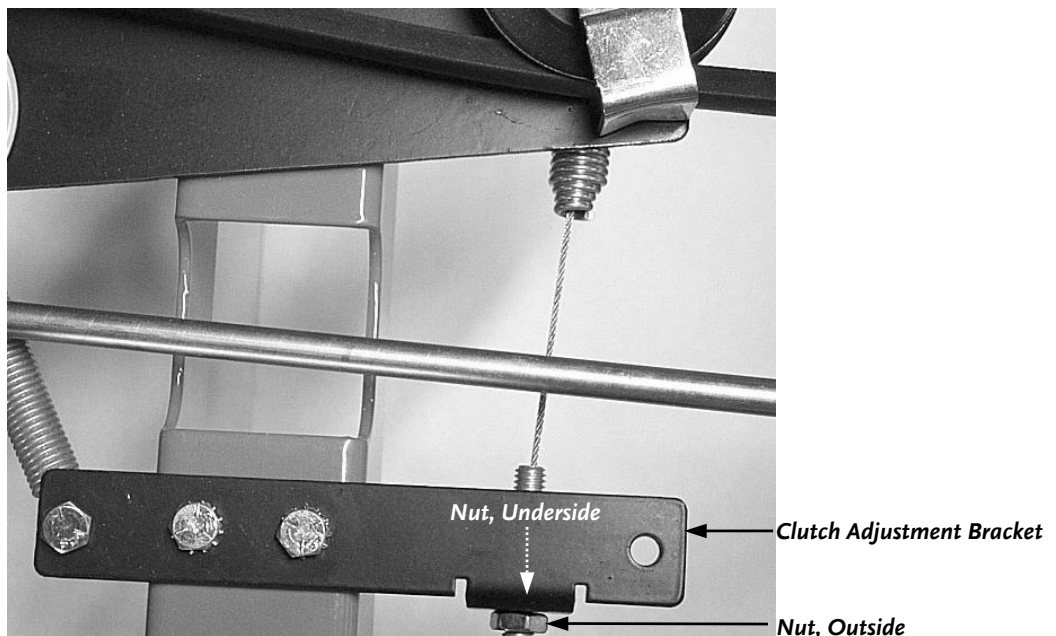

Figure 32
1. Raise the Dump Bed to expose the Wheel Clutch Adjustment Bracket (**Figure 32**).